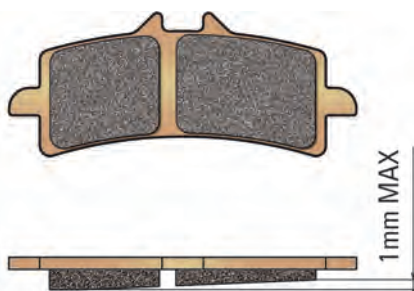

Fig. 7
- Pad radial wear difference must not exceed 1 mm MAX (see fig. 7). Defective or excessively worn pads must be changed.